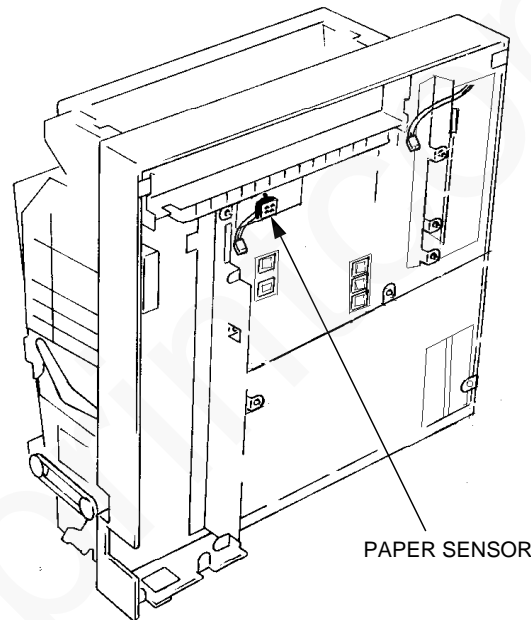

Figure 1. Paper sensor
4. Remove the sensor (figure 1).